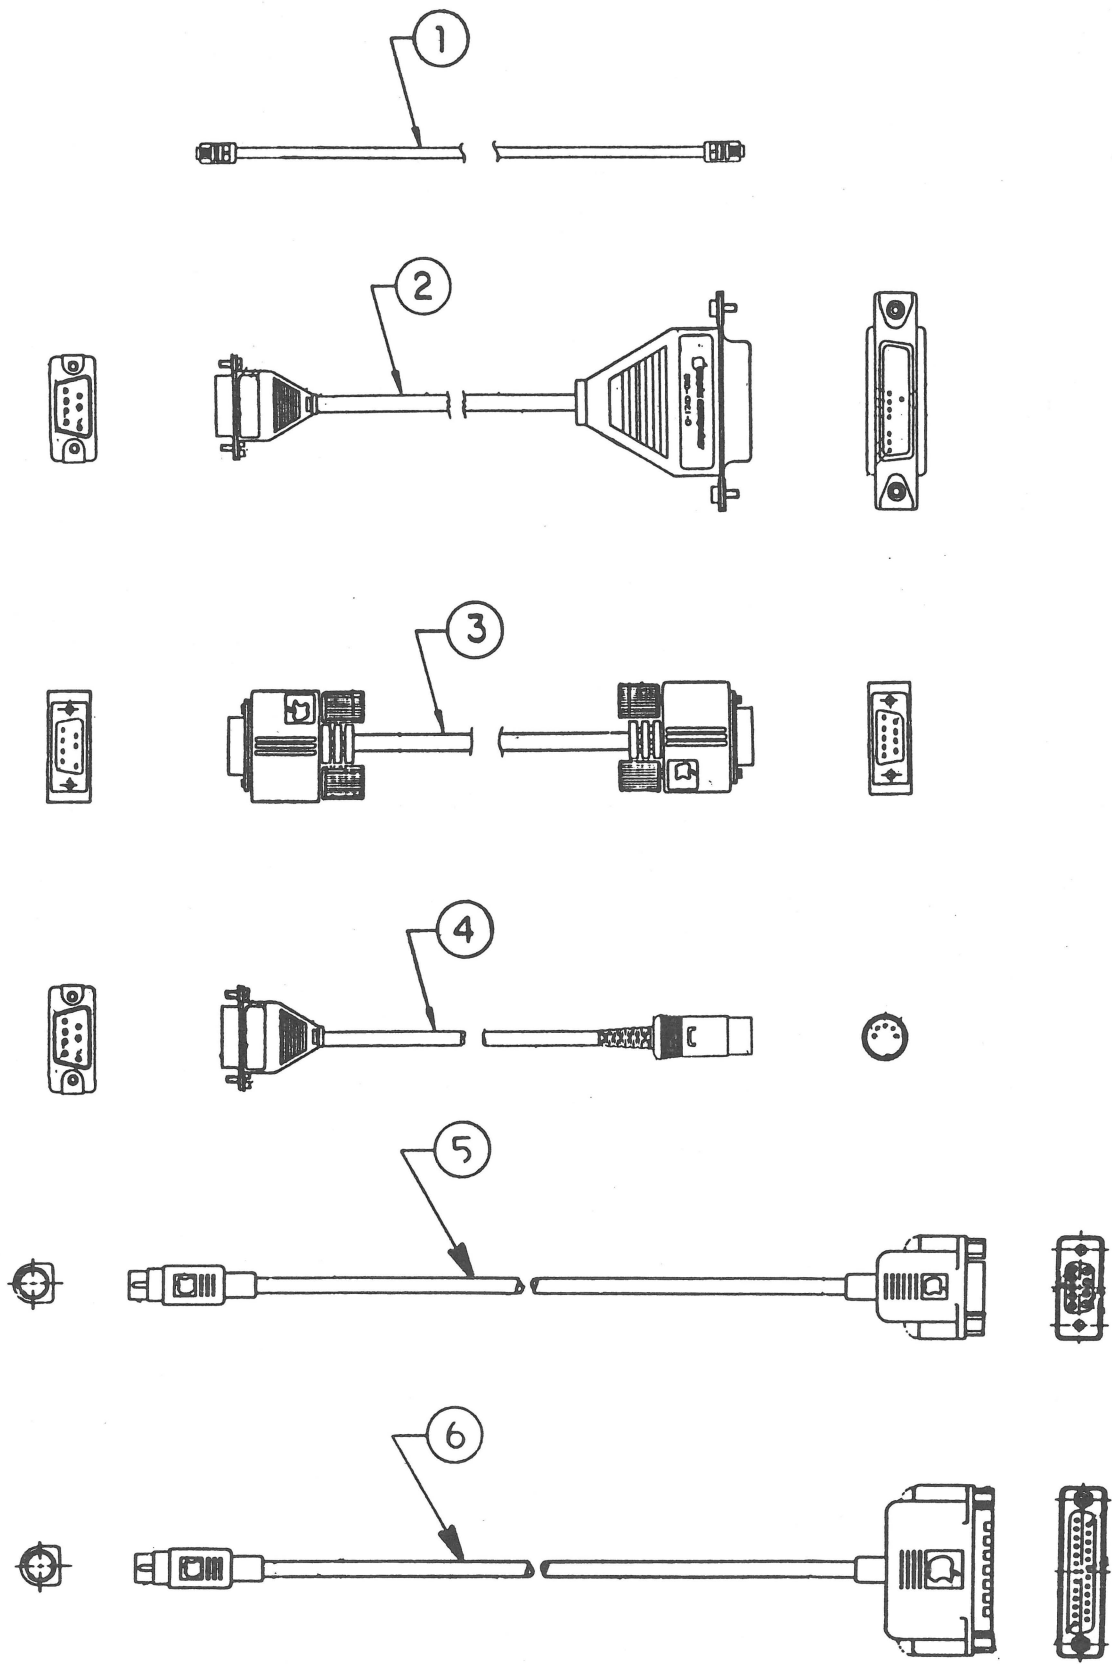

FIGURE 2
- IPL.5 Apple 300/1200 Modems – Cables and Connectors (Figure 2)
(Figure 2)